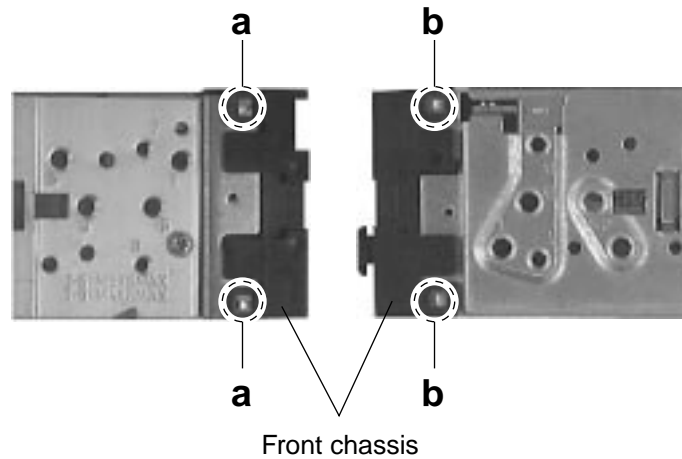

Fig. 1
■ Removing the front chassis (See Fig.1)